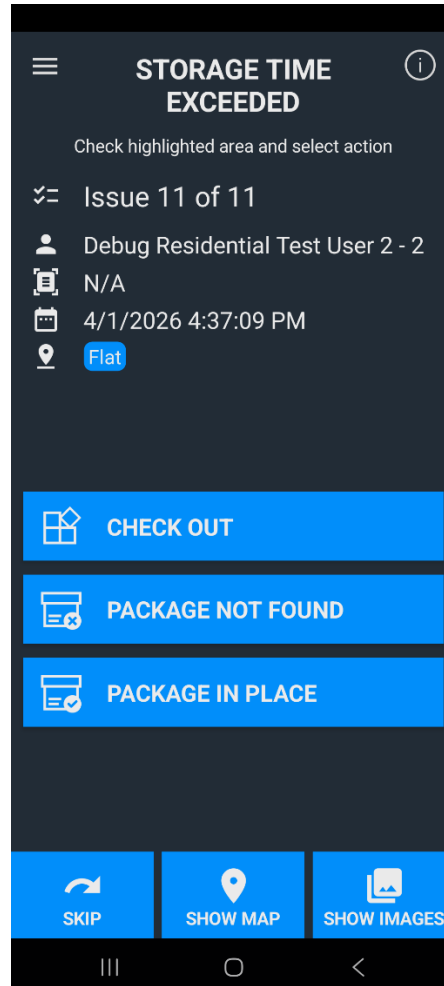

Figure 49: First package
8. The Wizard stops at the first “Storage Time Exceeded” issue. Determine what you are going to do with the package and tap the appropriate selection (see Figure 49):